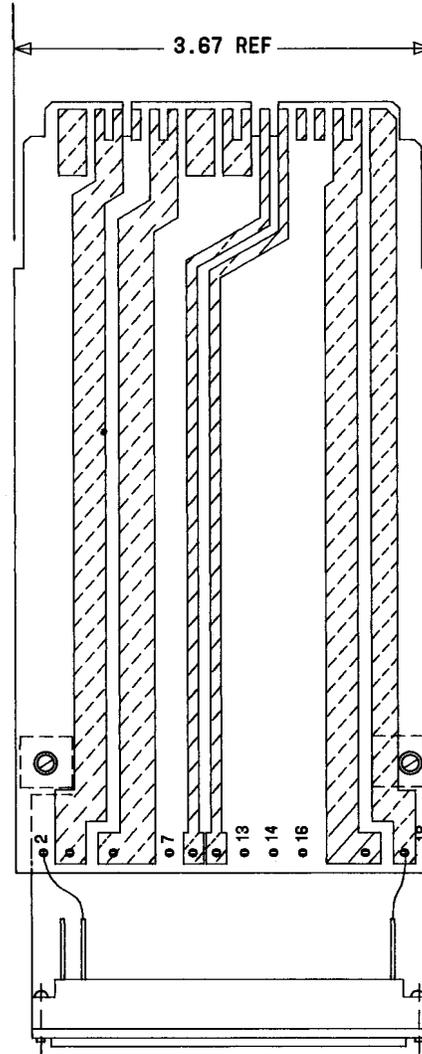

Fig. 3—20A Extender Tool
2.09 20A: The 20A extender tool (Fig. 3) is used with a 23A shelf to permit the 132AE power unit to be extended 8.37 inches out of its normal position in the 80C apparatus mounting for testing and adjusting in the field.